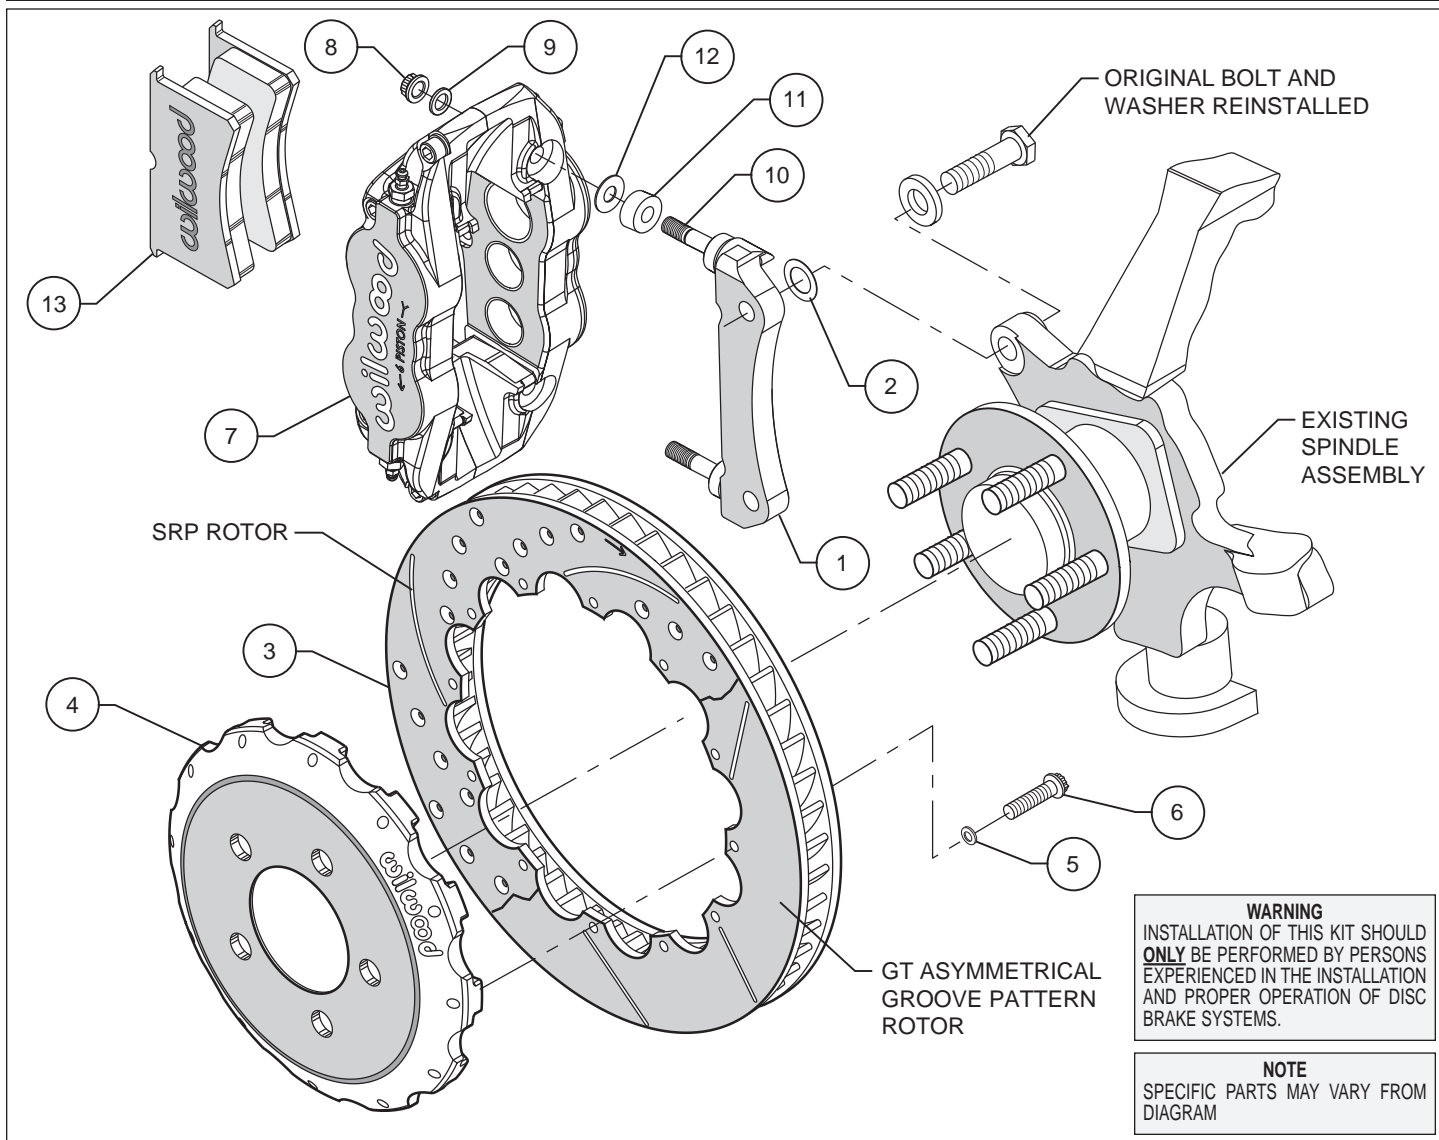
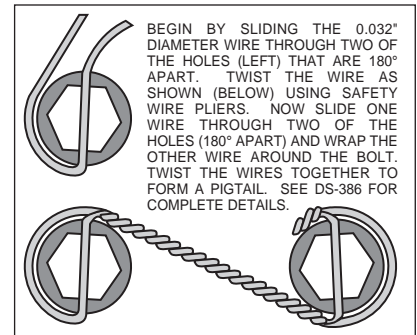

Figure 1. Typical Installation Configuration
Figure 3. Safety Wire Diagram
- Assemble the rotor (3) to the hat (4) with the bolts (6) and washers (5) as indicated in the configuration pictured in Figure 1. Using an alternating sequence, apply red *Loctite*® 271 to the threads and torque bolts to 155 in-lb. For an added measure of security, the bolts may be safety wired using standard 0.032 inch diameter stainless steel safety wire as shown in Figure 3. Please refer to Wilwood's data sheet DS-386 (available at [www.wilwood.com/Pdf/DataSheets/ds386.pdf](http://www.wilwood.com/Pdf/DataSheets/ds386.pdf)) for complete safety wire installation instructions.
- **NOTE:** This kit contains distinct right and left hand calipers that must be mounted in a specific direction, as described below. Lubricate the caliper mounting studs (10) with lightweight oil. Initially place one .035" thick shim (12) and spacer (11) on each stud as shown in Figure 1. Mount the caliper (7) onto the bracket (1) using lock nuts (8) and washers (9), Figure 1. Ensure that the caliper is mounted so that the largest pistons are at the rotor exit end of the caliper, in relation to the direction of rotor rotation. Temporarily tighten the lock nuts and view the rotor through the top opening of the caliper. The rotor should be centered in the caliper. If not, adjust by adding or subtracting shims (2) between the bracket and the upright. Always use the same amount of shims on each of the two mounting bolts. Once the caliper alignment is correct, remove the bracket mounting bolts one at a time, apply red *Loctite*® 271 to the threads, and torque to manufacturer's specifications.
- Remove the caliper center bridge pad retainer bolt, nut, and tube from the caliper. Slide the brake pads (13) into place. They should install easily without interference. Check that the outside radius of the brake pad is aligned with the outside diameter radius of the rotor face. Add or subtract .035 shims (12) between the caliper and mount bracket to gain the proper alignment. Reinstall the center bridge pad retainer tube, bolt, and lock nut. The locknut should be snug without play in the bolt or tube. Be cautious not to over tighten.
- Once all clearances have been checked, remove the wheel, caliper, hat, and rotor from the spindle and hub. Secure the caliper mounting bracket (1) to the spindle using red *Loctite*® 271. Torque the bolts to 65 ft-lbs. Reinstall the hat and rotor assembly and again use several lug nuts to hold it in place. Lubricate caliper mounting studs and nuts with lightweight oil, reinstall the caliper, torque the caliper nuts (8) to 28 ft-lbs.